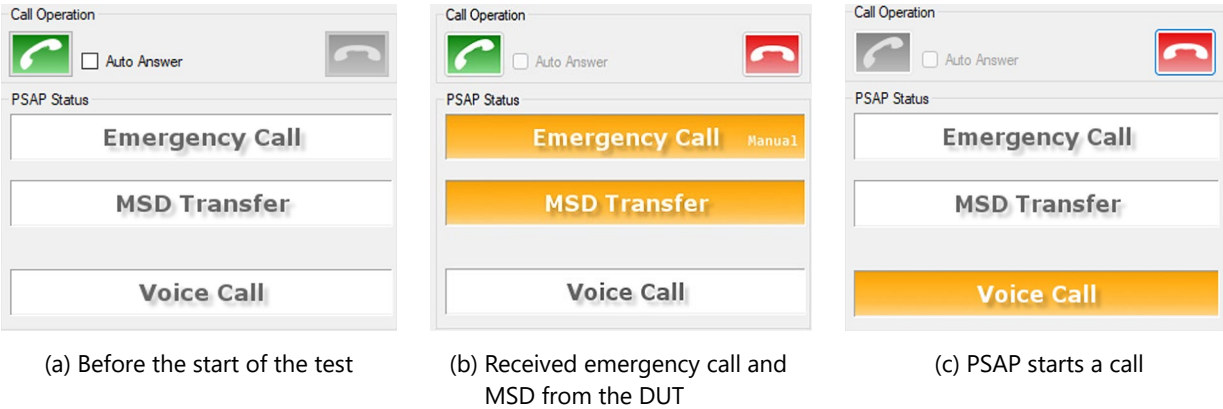

Figure 6 Status Display During Test in eCall Tester.
- Figure 6 shows an example of PSAP status transitions.